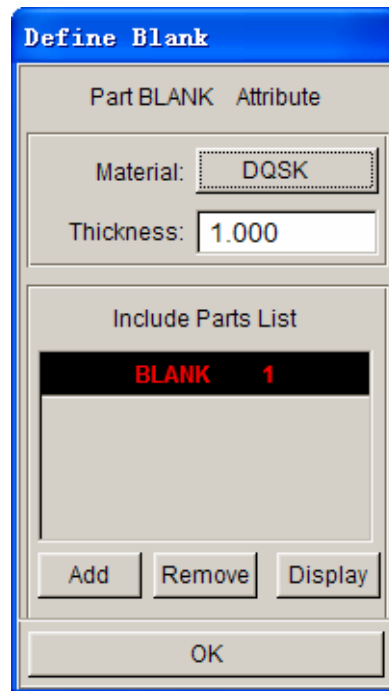

Figure 3.19: Define Blank dialog box
- 7) Click “OK” to return to the Define Blank dialogue window, then user may find the None button behind Material has been changed into the selected material type name of DQSK, which indicates the part has been assigned a material type . See figure 3.19.